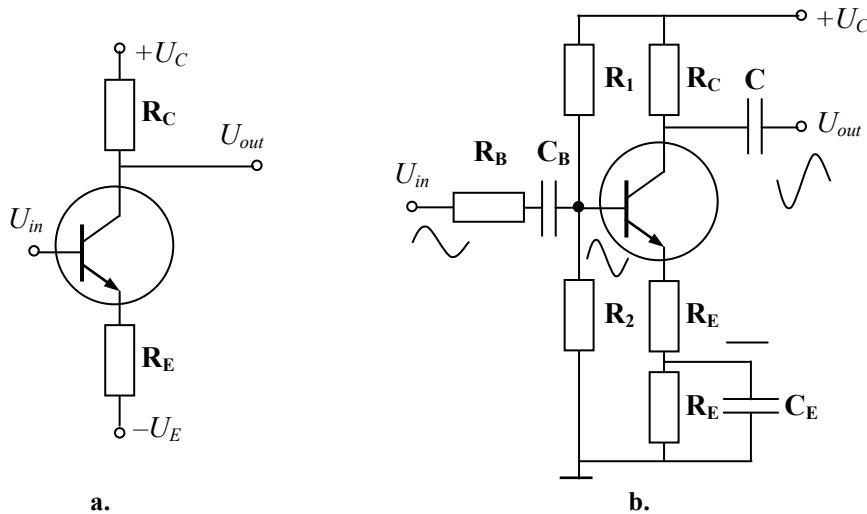

Fig. 2.12
Historically, the first attempt to stabilize the  $Q$  point was to introduce an emitter resistor  $R_E$ . There are two symmetrical supply sources in the circuit of Fig. 2.12,a – the positive source  $+U_C$  and the negative source  $-U_E$ . It is known as a *balanced supply* with two equal rails, positive and negative. While  $U_{in} = 0$ , the output  $U_{out} = 0$  too. Any quantity  $\Delta U_{in}$  leads to the  $\Delta U_E$  appearance, consequently
A feedback *voltage divider*  $R_E$  shown in Fig. 2.12,b is usually called a *bleeder*. Such a feedback amplifier was invented in 1927 by H.S. Black. When the gain increases, so does the output quantity too. This output quantity flows through the emitter resistor, which diminishes an input quantity. In other words, the output influences the input. It is called
**Two-stage dc amplifier.** The capacitor between the stages shown before in Fig. 2.12 decreases the signal and shifts its phase. It is the main reason of the frequency limiting in the ac amplifiers. Moreover, the capacitor needs an additional place in the amplifier design. As there are many applications without ac signals, the dc amplifier manages without the capacitor.